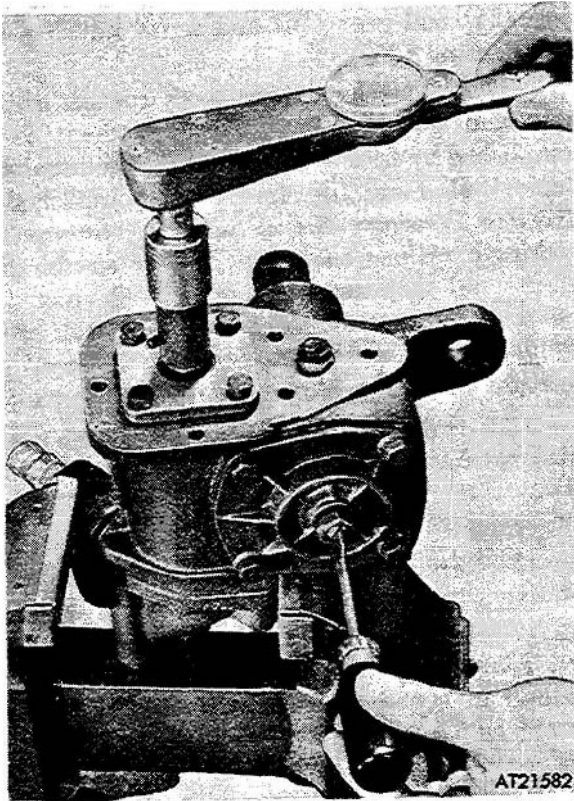

Figure 3-209. Adjusting front steering gear box.
(1) Center shaft in steering gear box by rotating worm gear and counting revolutions.
(2) Using a suitable inch-pound torque wrench and adapter, rotate worm gear shaft and note preload in center position (fig 3-209). Preload should be 15-29 lbs-in., if not, adjust preload by performing (3) and (4) below.